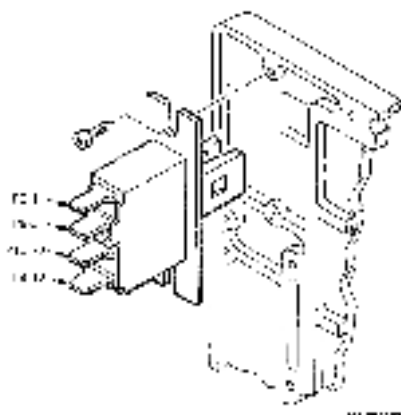

Figure 4-21 Door Interlock Switch (Mechanical View)
1. With tape deck in maintenance position (Figure 4-21), remove four labeled slip-on connectors from interlock switch connectors. (If any wires are not labeled, identify and mark each wire for proper reattachment.)
4. Attach slip-on connectors to appropriate studs of interlock switch (Figure 4-21).